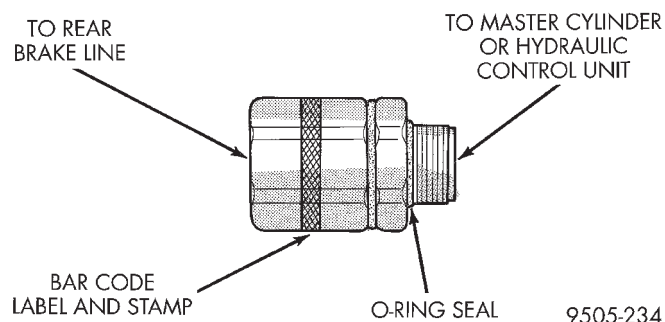

**Fig. 23 Proportioning Valve Identification**
**CAUTION:** Proportioning valves (Fig. 23) should never be disassembled.